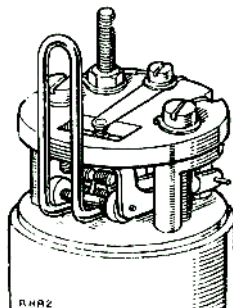

Fig. M-18—
- This is best effected by using a special forked wedge to keep the armature in its extreme position (Fig. M-18); the wedge is inserted between the white rollers of the outer rocker and pressed in under the tips of the inner rocker,